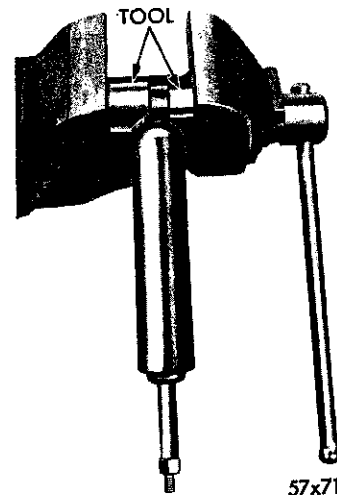

Fig. 10—Replacing the Shock Absorber Bushing
(3) Remove the lower mounting bolt and remove the shock absorber.
(4) If the upper bushing appears worn, damaged or deteriorated remove it by first pressing out the inner stud sleeve, then prying-out or cutting-out the rubber bushing. (This bushing takes some permanent set so that once removed it should be replaced.)
(5) If the lower bushing is to be replaced, remove it from the shock absorber, using Tool C-3553 to press on the outer sleeve of the bushing, (Fig. 10) (Pressing on the inner sleeve will not remove the outer sleeve from the shock absorber).